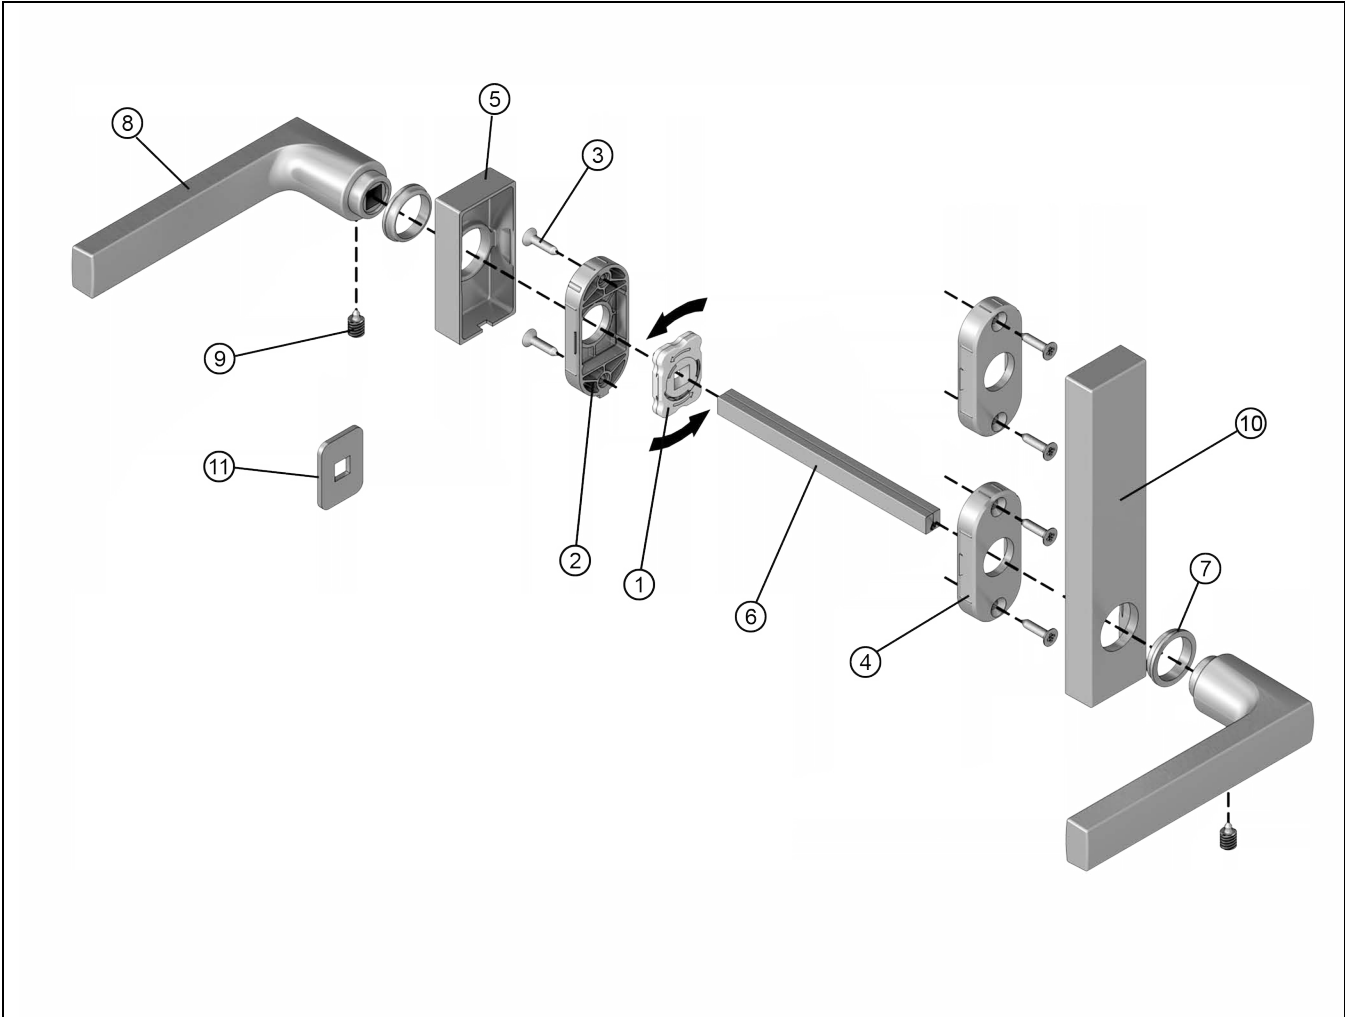

Figure 1
2. Screw the mounting bases to the panel using the short sheet metal screws. Ensure the small plastic tabs are orientated downward. (See inset Figure 1, base is shown from the back side). The mounting bases with gaskets will go on the exterior.